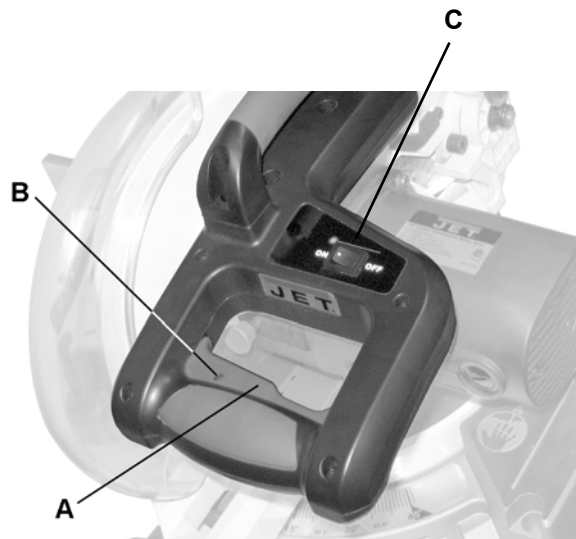

Figure 15
The laser is turned on with a switch located on the saw handle (C, Fig. 15). When left on indefinitely, a sensor will turn the laser off after 20 minutes. The switch must be reset (turned off for two seconds, then on again) to restart.
4. Squeeze the *trigger switch* (A, Fig. 15) to start saw.
2. Release trigger switch (A, Fig. 15) and wait for all moving parts to stop before moving your hands and raising the cutting arm.
Depress the trigger switch (A, Fig. 15).
**Note:** Make the On/Off switch child-proof by inserting a padlock through the hole (B, Fig. 15) in the trigger switch.